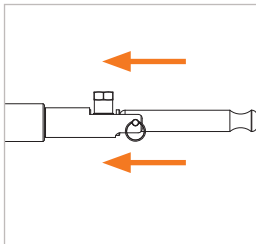

Figure 7
- ▶ Move the connector slightly in the direction of the test piece (Figure 7). The connection to the test piece is released and the connector can be removed by pulling it straight back.